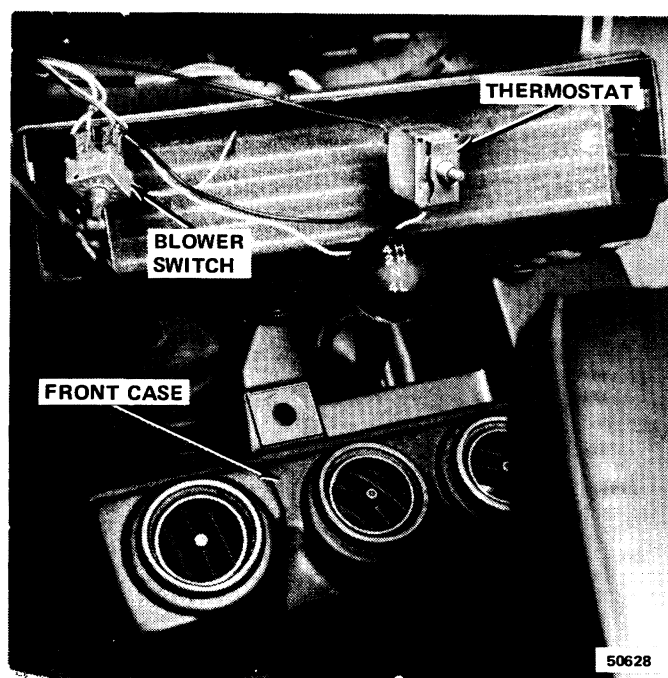

Fig. 130 Blower Switch and Thermostat Removal—1975 CJ Models
- (1) Remove knob and locknut from blower switch.
- (2) Remove left louver assembly to gain access to blower switch.
- (3) Remove blower switch and disconnect wires from switch (fig. 130).
- (1) Remove knob and locknut from thermostat switch.
- (2) Remove evaporator attaching screws and move evaporator away from instrument panel.
- (3) Remove screws from evaporator case halves and separate case halves.
- (4) Remove top case half to gain access to thermostat and capillary tube.
- (5) Remove capillary tube from evaporator. Disconnect thermostat wires and remove thermostat (fig. 130).